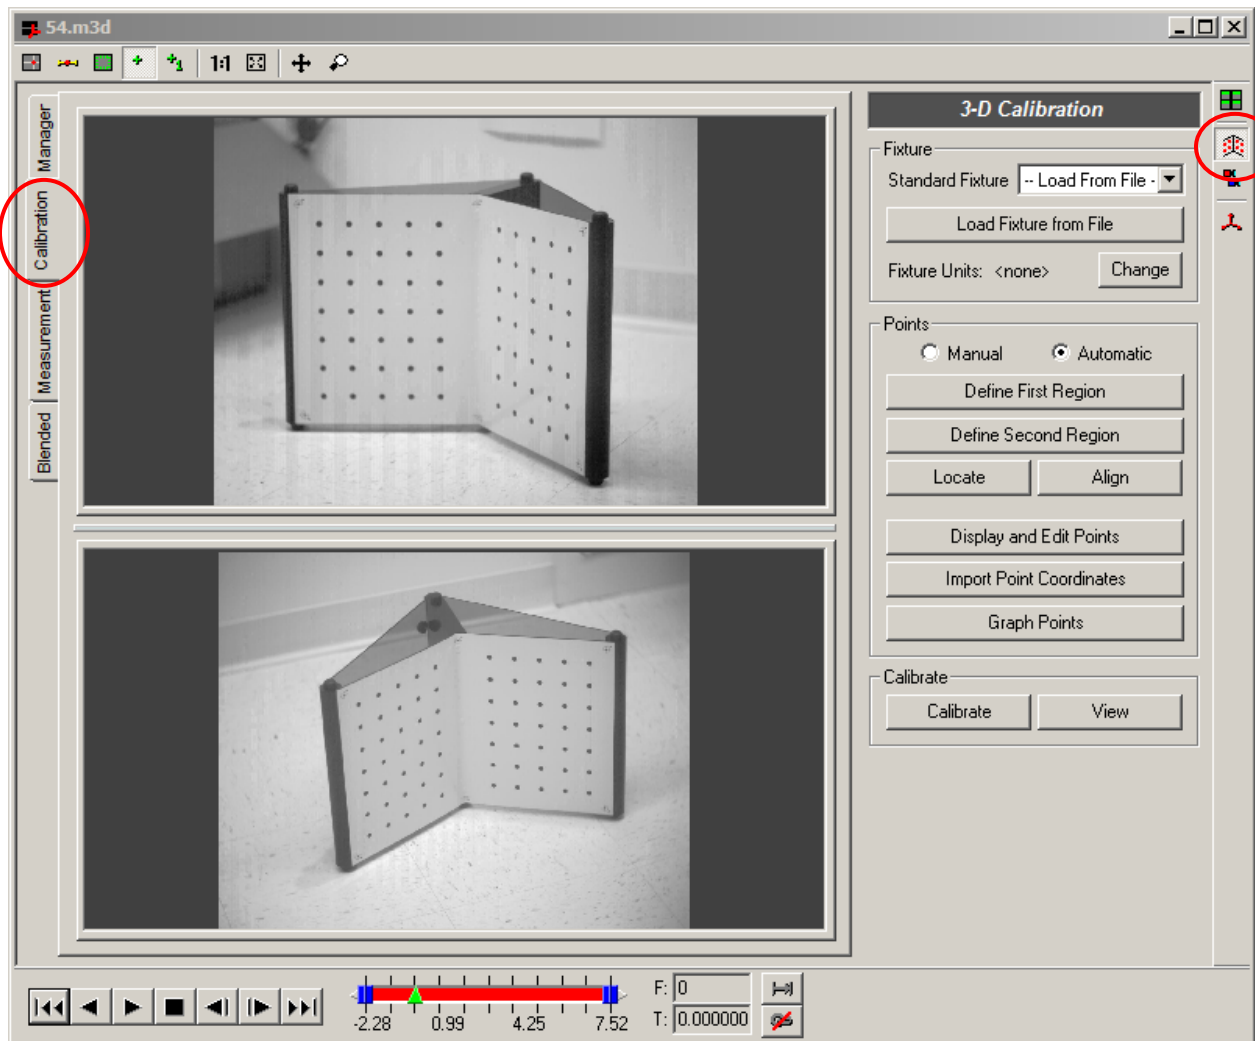

Figure 2. 3-D Calibration window
- Click the **Calibration** tab on the left side of the 3-D Manager window or the Calibration icon  on the right side of the window. The 3-D Calibration window is displayed. Figure 2 shows the 3-D Calibration window with the tab and icon circled.